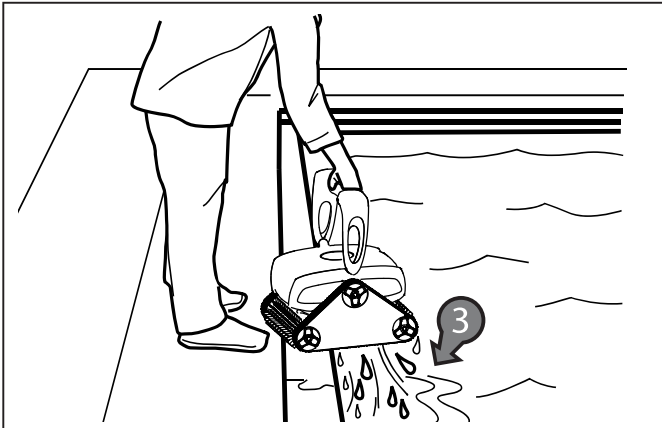

Figure 6. Lift Cleaner From Pool with Handle
3. Hold the cleaner vertically over the pool surface to drain water before removing (Figure 6).